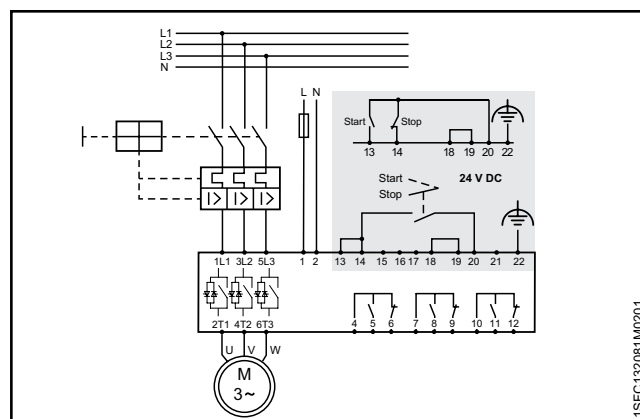

Figure 2.6
7. Connect terminals 4, 5, 6, 7, 8, 9, 10, 11 and 12 to use the signal output relays. These are potential-free contacts for maximum 250 V AC, 1.5 A AC-15 and 30 V DC, 5 A DC-12. See **Figure 2.6**.